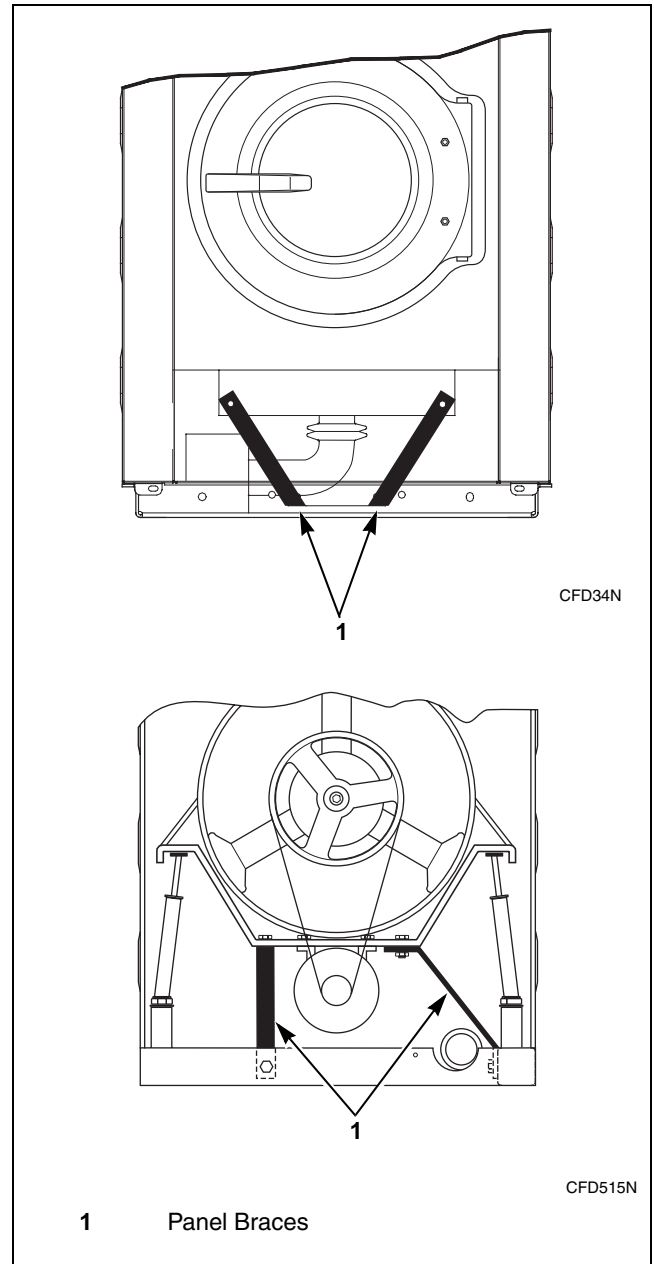

Figure 5
4. Remove the panel braces. Refer to *Figure 5*.
**IMPORTANT: Do NOT remove panel braces.** They may be located in either the front or on the side and rear of the machine. Refer to *Figure 5*.